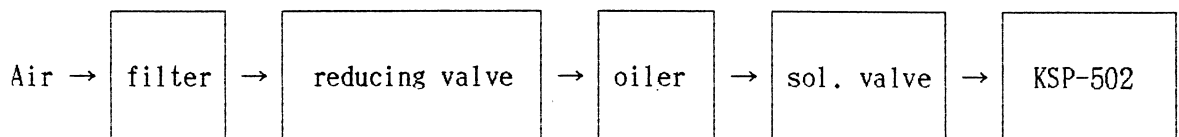

Fig.4
1) Be sure to protect the air-feed line to the pump as shown in Fig.4.